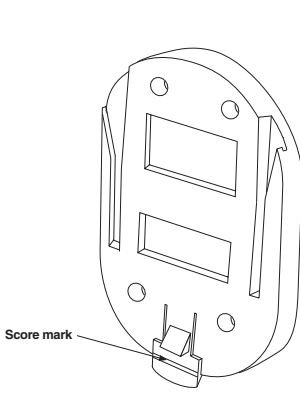

Figure 11
3. The release tab is scored with a mark (**Figure 11**). Carefully position pliers along the lower side of the score mark.